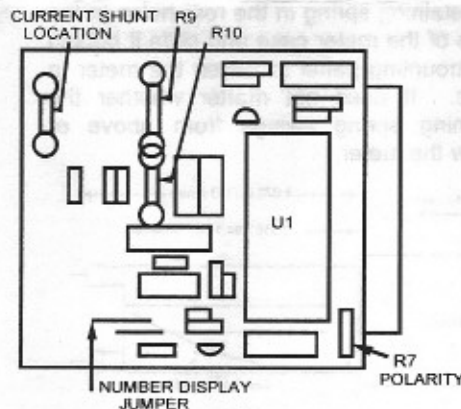

Figure 5: Component Location
- POLARITY DISPLAY:** To blank the polarity display an internal resistor (R7) may be removed (figure 5). To dim the polarity display the internal resistor may be replaced by a different value. The value of the resistor is best determined experimentally by the brightness desired. The polarity display may also be dimmed or blanked by external connections on the RM-350EC/120. First
- Install the resistors specified in Table I to obtain desired range. See Figure 5 for component locations.